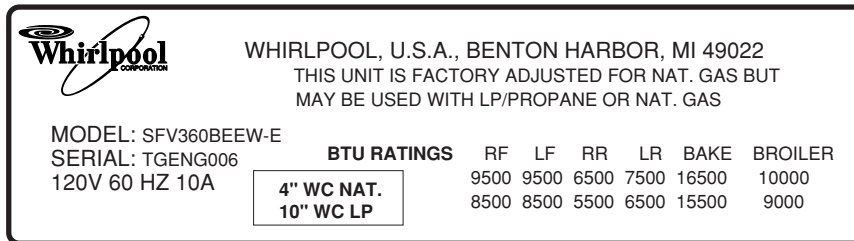

Figure 2-8
In most locations, natural gas pressure entering the home is regulated to 7 inches water column. L.P. gas is regulated between 10 and 12 inches water column. The appliance regulator reduces the incoming pressure to the required amount for the appliance. The model/serial plate on the gas range (see Figure 2-8) provides information about the proper water column pressure. Whirlpool ranges operate on 4 inches water column on natural gas, and 10 inches WCP on L.P.
1. Check the appliance model/serial plate and note the gas pressure rating (see Figure 2-8 on the previous page).